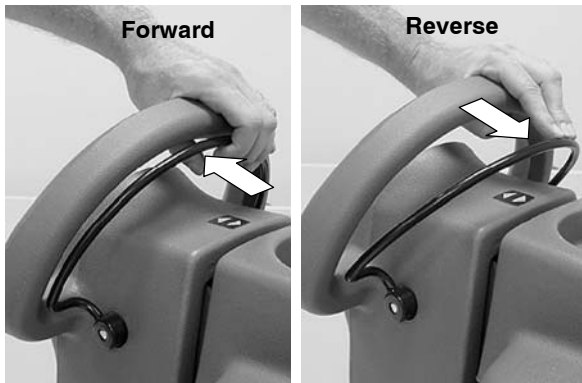

FIG. 15
5. Pull the control handle bail backwards to start scrubbing. The machine will propel forward. Push the control handle bail forward to move the machine in reverse (Figure 15).